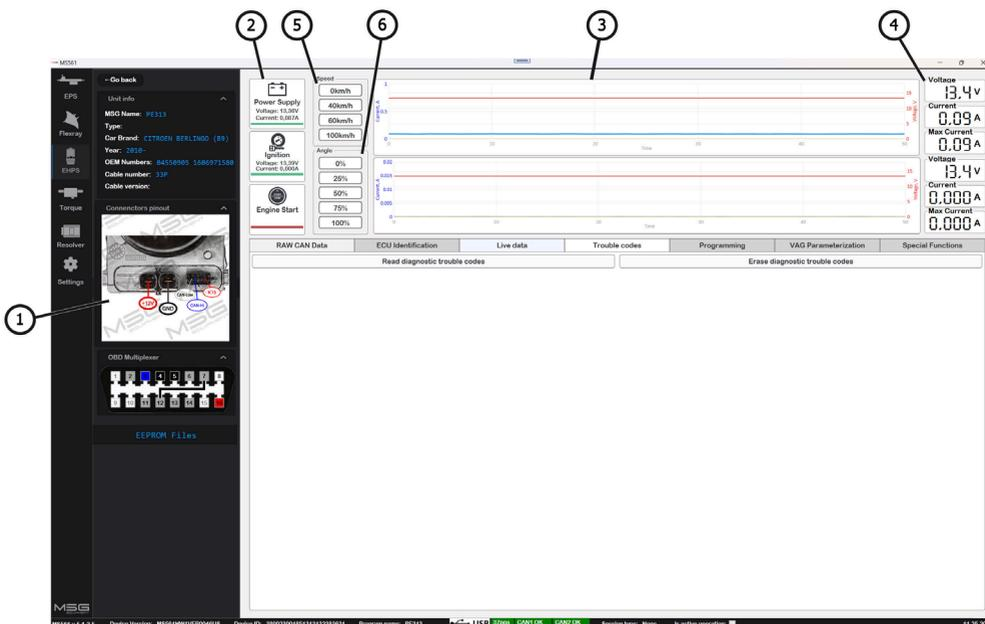

Figure 5. MS561 PRO software – diagnostics window
4.1. Evaluate pump performance using the MS561 PRO tester according to the following criteria (see Fig. 5):
- Gradually increase **steering rotation speed** (Pos. 6, Fig. 5) – **fluid flow values should increase**.
- Gradually increase **vehicle speed** (Pos. 5, Fig. 5) – **fluid flow values should decrease**.
- Set both **vehicle speed and steering rotation speed** (Pos. 5 and 6, Fig. 5) to **zero**. On the MS511 tester, turn the **mode selector valve** to the **“PUMP”** position by rotating it **clockwise until fully closed**. When the valve is fully closed, the pump should generate a pressure of **100 bar** and hold that value (most pumps are calibrated to this pressure). In this case, the
- In the MS561 PRO tester software, shut down the unit by pressing the buttons (see Pos. 2, Fig. 5) in the following sequence: **“Engine Start,” “Ignition,” “Power Supply.”**